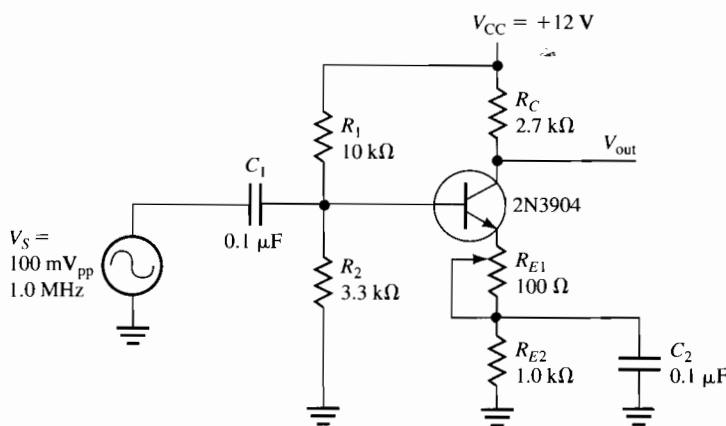

Figure 42–1
2. Observe the class A amplifier shown in Figure 42–1. Using your measured resistor values, compute the dc parameters for the amplifier listed in Table 42–2. R_{E1} is a 100 Ω potentiometer that you should set to 50 Ω . Then construct the circuit and verify that your computed dc parameters are as expected.